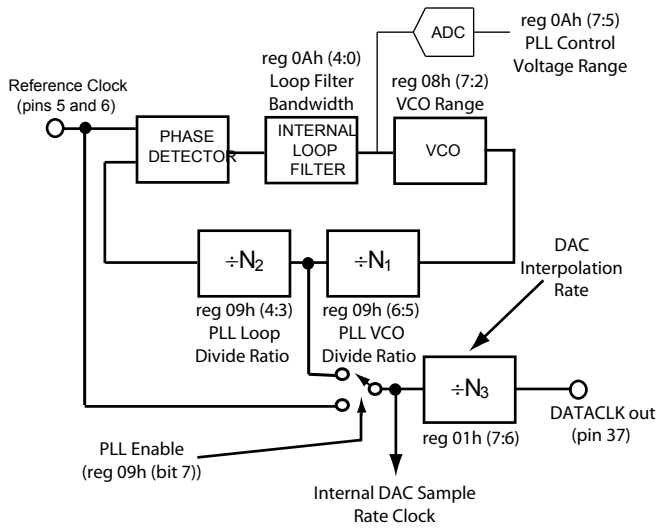

Figure 40. Internal Clock Architecture of AD9779
The internal clock architecture is shown in Figure 40. The reference clock is the differential clock at pins 5 and 6. This clock input can be run differentially, or singled ended by driving pin 5 with a clock signal, and biasing pin 6 to the mid swing point of the signal at pin 5. There are various configurations in which this clock architecture can be run;
1. PLL Enabled (reg 09h, bit 7=1) – The PLL enable switch in Figure 40 is connected to the junction of the dividers N1 (PLL VCO Divide Ratio) and N2 (PLL Loop Divide Ratio). Divider N3 determines the interpolation rate of the DAC, and the ratio N3/N2 determines the ratio of Reference Clock/Input Data Rate. The VCO runs optimally over the range 1.0GHz to 2.0GHz, so that N1 is used to keep the speed of the VCO in this range, even though the DAC sample rate may be lower. The loop filter components are entirely internal and no external compensation is necessary.
2. PLL Disabled (reg 09h, bit 7=0) – The PLL enable switch in Figure 40 is connected to the Reference Clock Input.